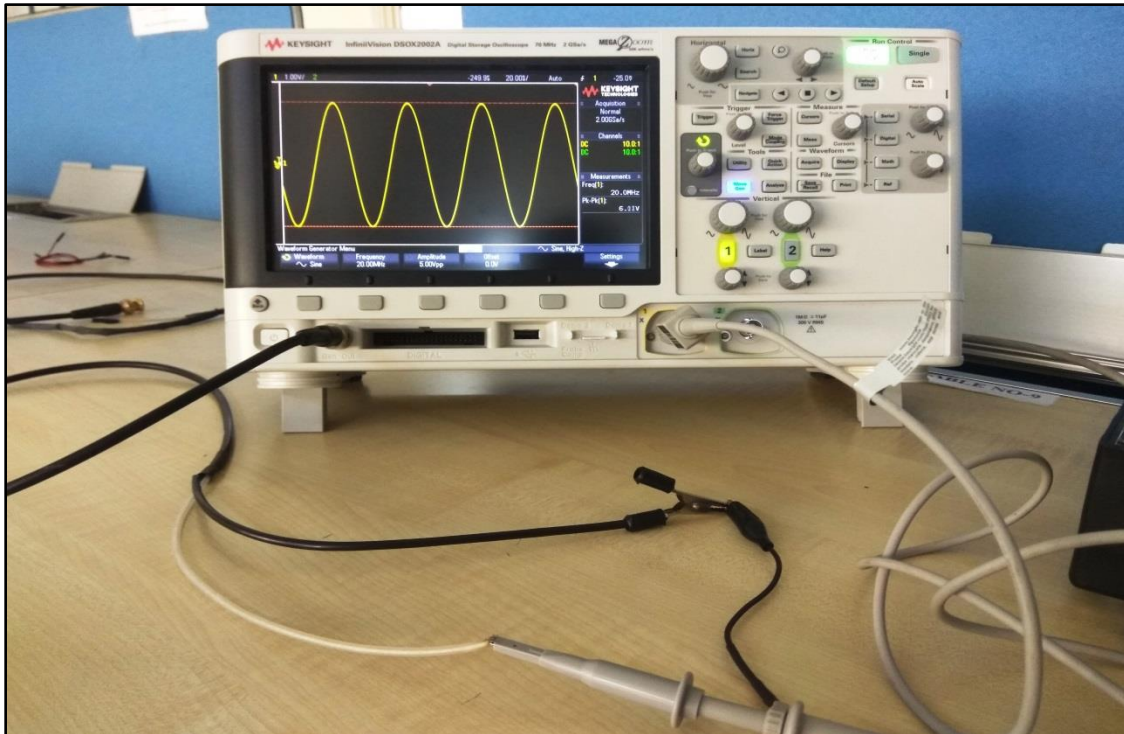

Figure 17: Probes connection set up between wave generator and DSO.
- Connect the pin of one probe end into the hook of the other probe end as shown in Figure 17.